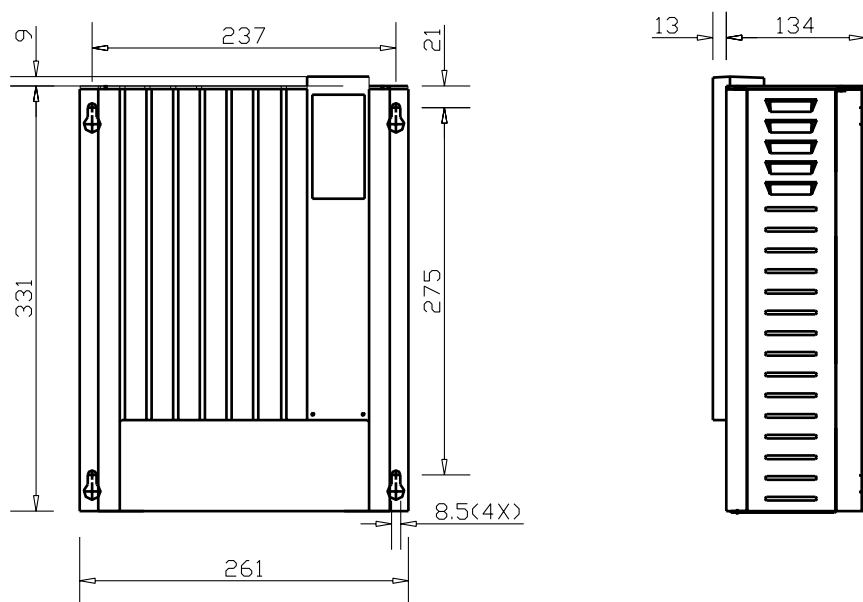

Fig. 2: Mounting points Mass Sine 12/1200, 24/1500 230V / 50Hz and Mass Sine 12/1000, 24/1000 117V / 60Hz.
- 1 Determine the mounting points (see fig. 2 and 3).